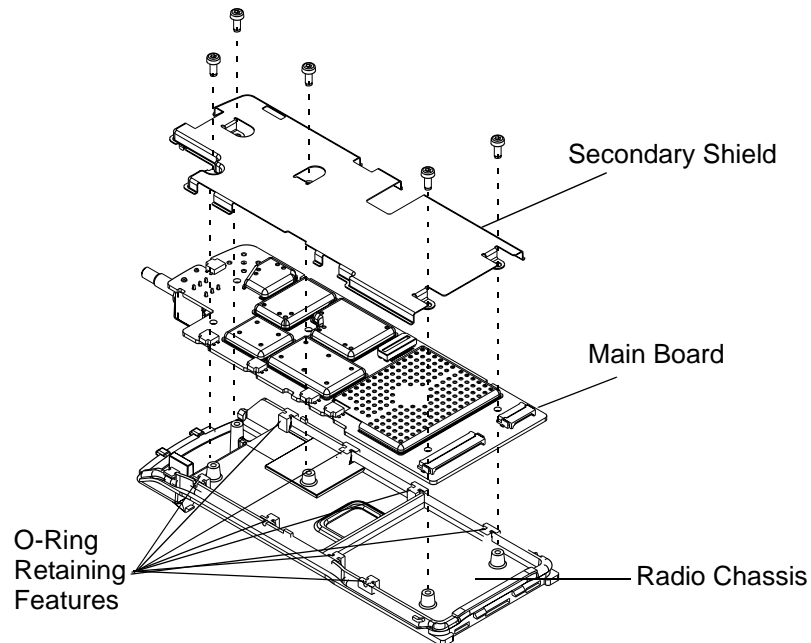

Figure 6-5 Remove Main Board from Chassis
2. Lift the secondary shield and main board from the chassis (See Figure 6-5).